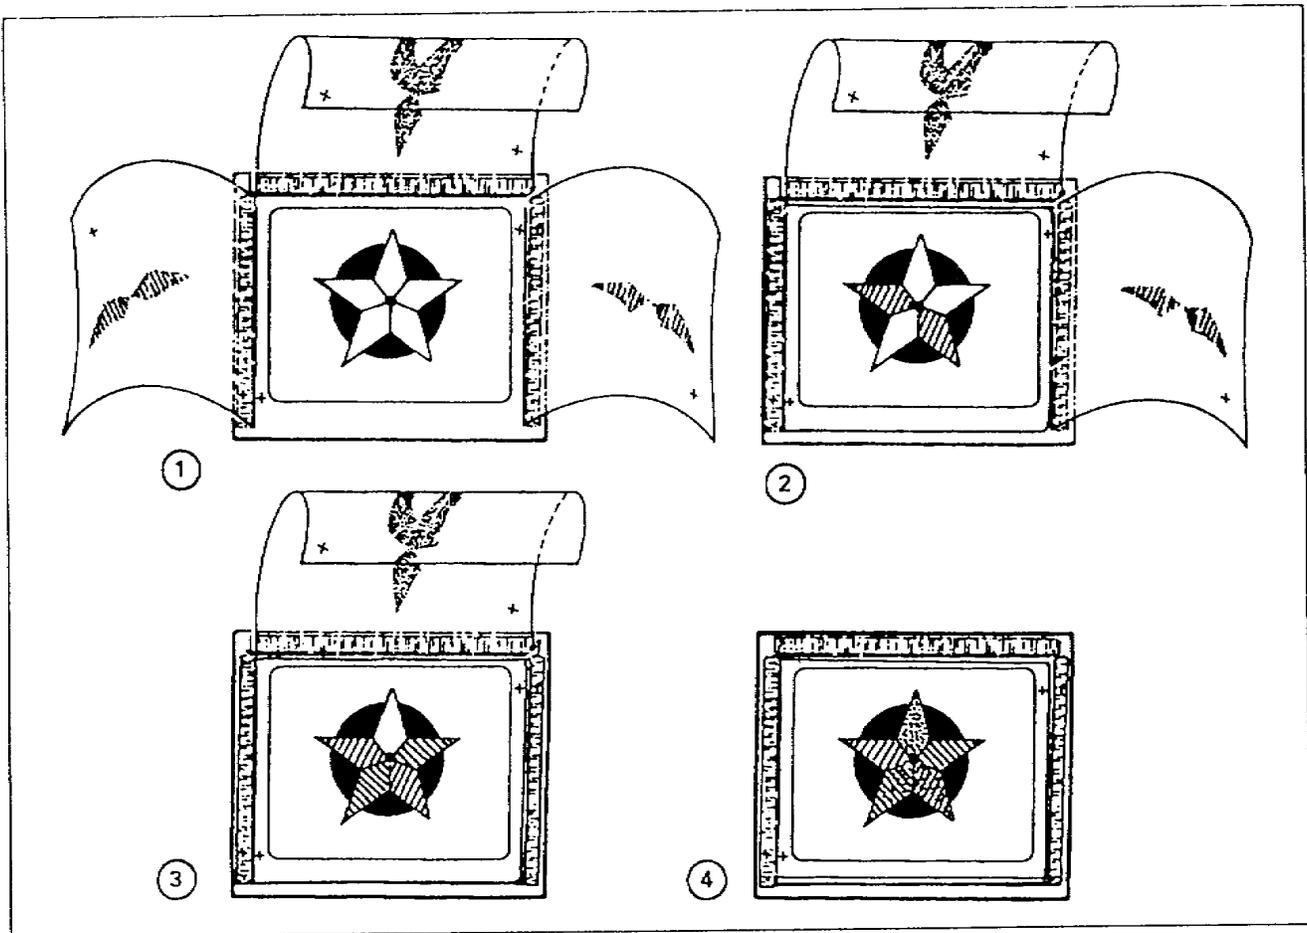

Figure 2-11. Multi-cell VGT using flips
(1) You prepare the base foil and mount it in its frame. You then prepare the flips and hinge them in the desired pattern. Using the base foil and the flips, you can present a series of ideas or instructional points with this multiple-celled VGT. Figure 2-11 illustrates the concept of multi-cell VGT presentation. Note the registration marks on each cell.
(2) You must know if the receiver of your VGTs uses a front or rear projection method. You must know this in order to determine how to mount your films. For front screen projection, you mount the foils right side up; for rear screen projection, you mount them face down on the rear.